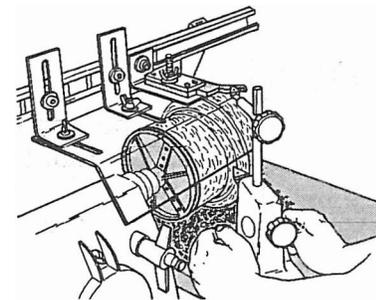

Fig. D-4
**19. Rough-shape the outside profile first.** See Fig. D-4. Turn the outside profile first. Cut your beads and coves "uphill" in the same manner as you would for spindle turning. When the follower makes contact with all the large contours of the template, rough shaping of the outside profile is completed. Turn off the machine.